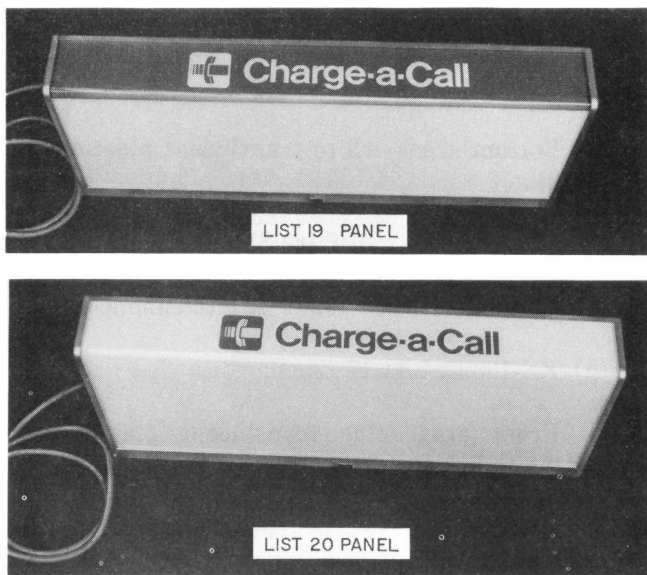

Fig. 12—KS-19322 Signs (Panels) for Charge-a-Call Service
- (i) KS-19322, List 19 Panel (Fig. 12):
- (j) KS-19322, List 20 Panel (Fig. 12):